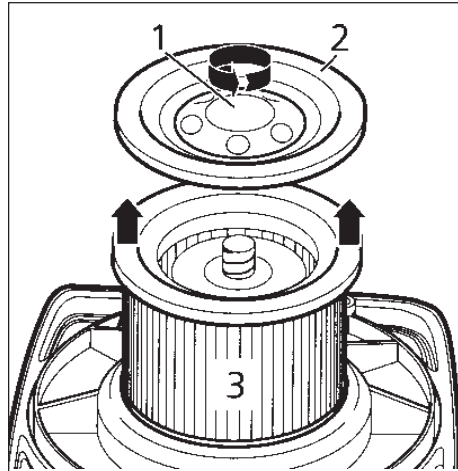

Figure 5
2. Remove the machine top section from the dirt tank and place to one side with the filter element facing upwards (Figure 5).
3. Unscrew the filter retaining nut (1) and remove together with the retaining washer (2).
4. Pull off the filter element (3).